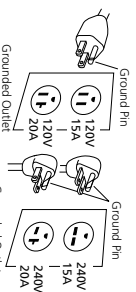

Figure 5
1. This product is for use on a nominal 120 volt circuit and has a grounding plug that looks like the plug illustrated in Figure 5. Make sure the product is connected to an outlet having the same configuration as the plug. This product must be grounded. In the event of an electric short circuit, grounding reduces the risk of electrical shock by providing an escape wire for the electric current. This product is equipped with a cord having a grounding wire with an appropriate grounding plug (See Figure 5). The plug must be properly installed and grounded in accordance with all local codes and ordinances.
1. If the plug on the electrical cord of the unit is unfamiliar to you or will not fit your particular receptacle, Figure 5 will help you understand why by illustrating the different plugs and the voltages they are to be used with.
1. Si la fiche sur le cordon d'alimentation vous paraît étrange ou si la fiche ne se branche pas dans votre prise de courant, la Figure 5 comporte des illustrations de types de fiches et de la tension qu'elles utilisent.